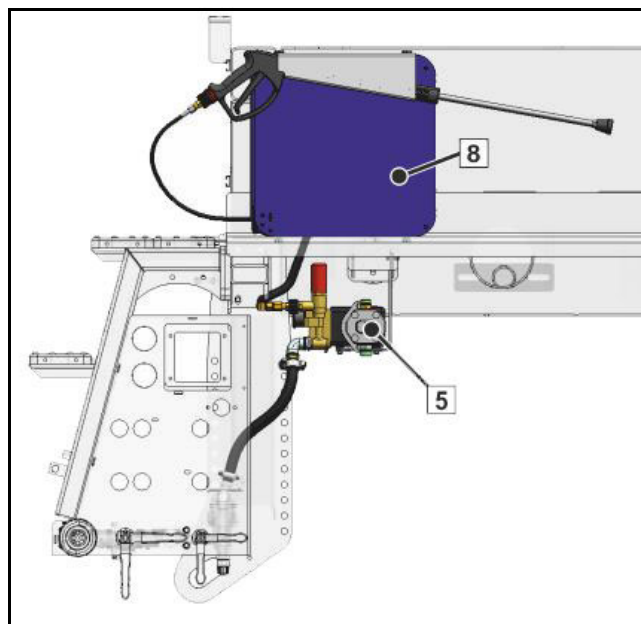

Fig. 431 Hose reel (8) fig. similar
The system is equipped with rolling equipment (8) (**Fig. 431**) for the high-pressure hose.